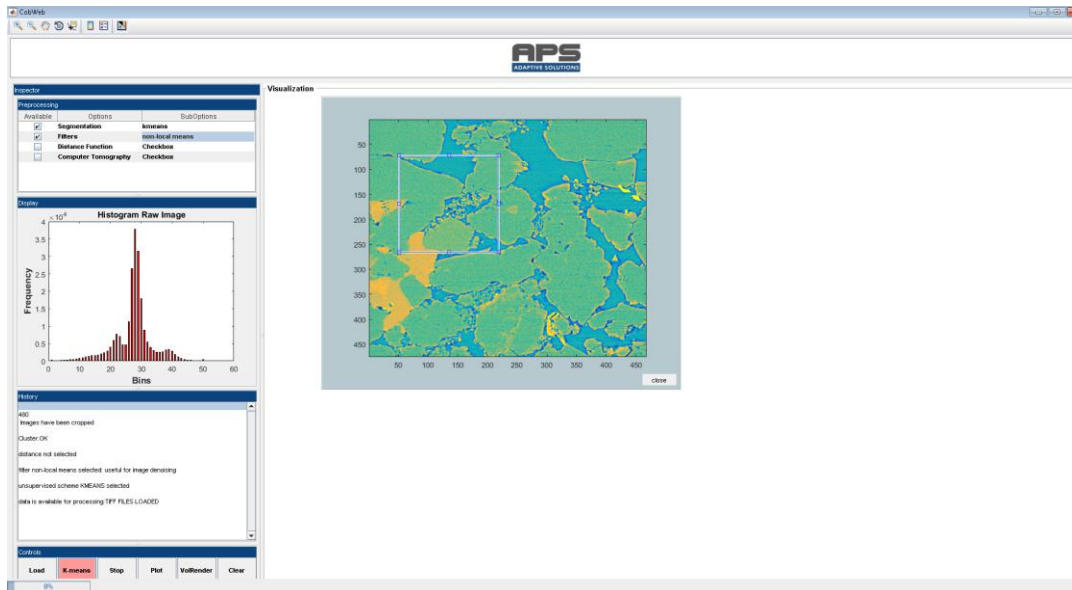

Figure 25: Image processing
- Figure 25 shows a snapshot of the CobWeb interface during segmentation. The **text** of the Start button **changes** to the segmentation algorithm (**Start** -> **K-means**) and the **colour** of the button changes to **red**.